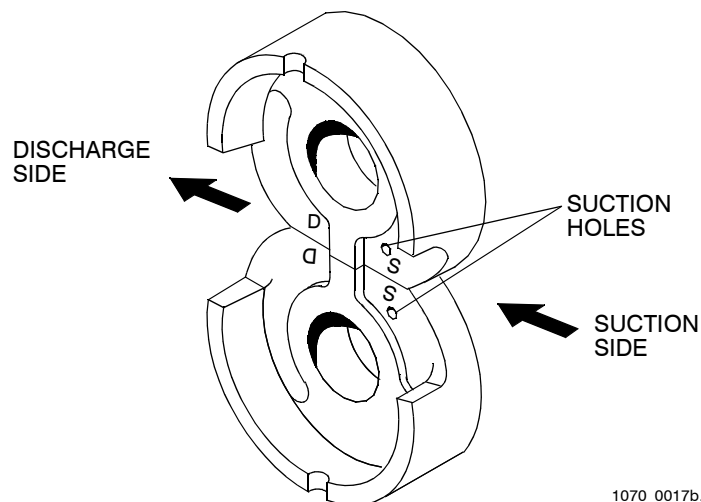

Figure 2-3. Liner Installation
2. Install two liners (22) in pump body (27). Make sure liner suction hole faces pump body suction port as shown in Figure 2-3.